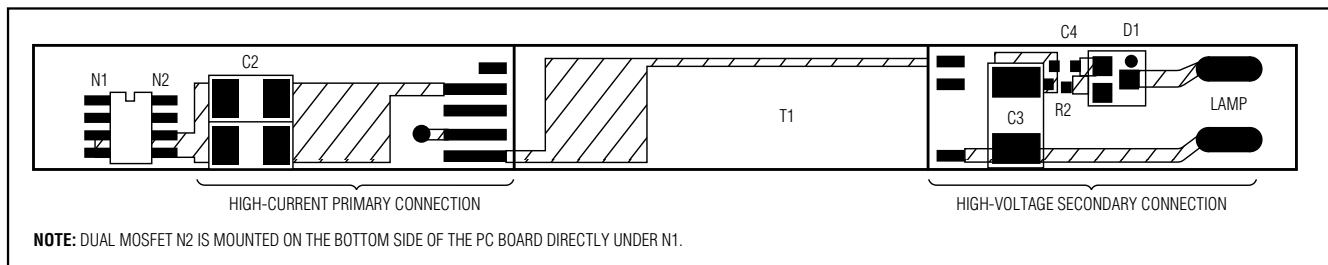

Figure 13. Layout Example
Careful PC board layout is critical to achieve low switching losses and clean, stable operation. The high-voltage and switching-power stages require particular attention (Figure 13). The high-voltage sections of the layout need to be well separated from the control circuit. Most layouts are constrained to long narrow PC boards, so this separation occurs naturally.
- The traces to the capacitive voltage-divider on the transformer's secondary need to be widely separated to prevent arcing. Moving these traces to opposite sides of the board can be beneficial in some cases (Figure 13).